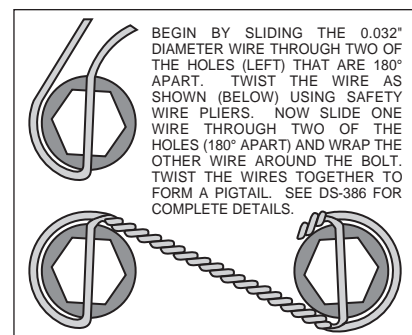

Figure 5. Safety Wire Diagram
- Make sure this is the correct kit to fit the axle housing flange, not necessarily the rear end make. Many times after market manufacturers put a different make of axle housing flange on the stock rear end housing (see Figure 5). Example; Big Ford rear ends with Olds-Pontiac flanges, therefore, an Olds-Pontiac rear disc brake kit would be the correct kit to order. Also, shock clearance may be a problem. They may have to be modified and/or relocated to clear the Wilwood kit after final assembly.
- With the larger I.D. side of the rotor (3) facing away from the hat (2), bolt rotor (3) to hat (2) through the backside of the rotor using washers (4) and bolts (5). Using an alternating sequence, apply red *Loctite*® 271 to the threads and torque bolts to 155 **in-lb**. For an added measure of security, the bolts may be safety wired using standard 0.032 inch diameter stainless steel safety wire as shown in Figure 5.. Please refer to Wilwood's data sheet DS-386 (available at www.wilwood.com/Pdf/DataSheets/ds386.pdf) for complete safety wire installation instructions.